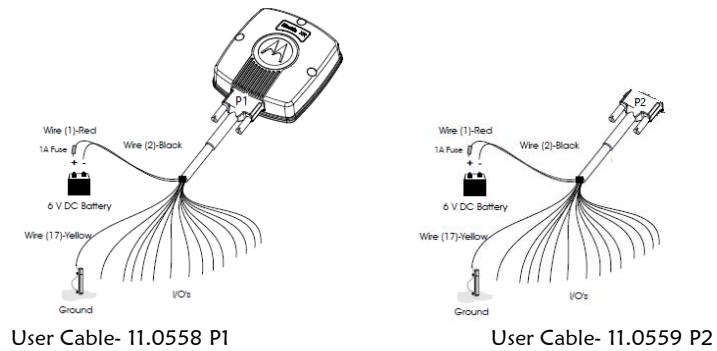

Figure 16
Connect the yellow wire (17) of the 11.0558 user cable to the PGND, as shown in Figure 16.
Use the 11.0558 and 11.0559 cables to connect the Piccolo XR Plus to an external battery. Connect Wire #1 (red) to the positive (+) pole of the battery through a 1A fuse (not supplied) and wire #2 (black) to the battery negative (–) pole. See Figure 16.